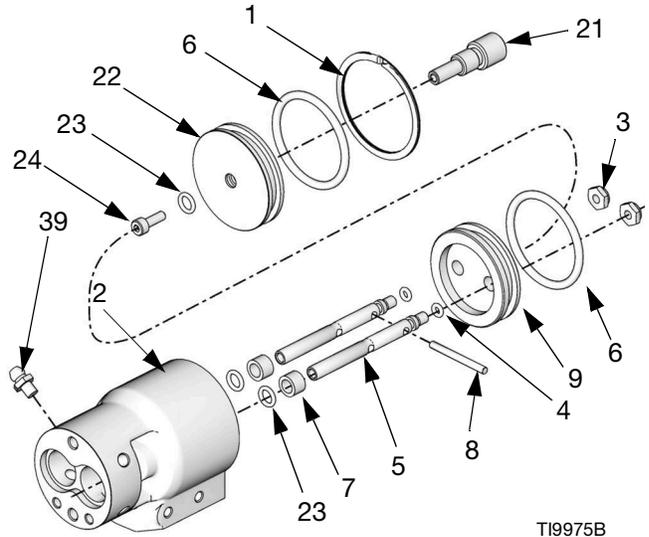

FIG. 8
- Remove the retaining ring (1) from the back of the air cylinder (2). Push the two shafts (5) into the air cylinder (2) to dislodge the air cylinder cap (22). See FIG. 8.
- Push the two shafts (5) to dislodge the piston (9) assembly from the air cylinder (2).
- Use an o-ring pick to remove the o-rings (23) and use a screwdriver to remove the sleeve bearings (7) from the air cylinder (2).
- Remove the o-rings (6) from the piston (9) and air cylinder cap (22).
- Remove the screw (24) and snuff-back adjustment knob (21) from the cap (22). Use an o-ring pick to remove the o-ring (23).
- Remove the lock nuts (3), the pin (8), o-rings (4), and piston o-ring (6) from the shaft (5).
1. Lubricate the shaft o-rings (23) and the bearings (7). Insert o-rings into the air cylinder (2) and air cap (22) cavities. See FIG. 8.
6. **255179 and 255181**, Insert the seals (26) with the springs facing into the fluid housing (14).
7. See **Nose Piece Orientation** on page 7. Install the nose piece (31) with the o-rings (20), seats (27), and nose piece screws (19). Tighten the nose piece screws to 115-120 in-lb (14-15 N•m).
8. **255181 and 255182**, Install injector tube (30) with assembly tool (48). Torque to 40-50 in-lb (4.5-5.6 N•m).
9. **255181 and 255182**, Install injector tip (47) and torque to 25-30 in-lb (2.8-3.4 N•m).
10. Remove zerk grease fitting (39). Fill grease in the grease port below until grease begins to exit where the zerk grease fitting (39) was located. Repeat for the other zerk grease fitting (39). See FIG. 8.